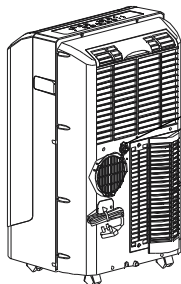

Fig.4
- Remove the drain plug from the back of the unit, attach a section of drain hose (included with this unit) to the hole. Place the open end of the hose directly over the drain area in your basement floor or in a water container (see Fig.4 & 5).